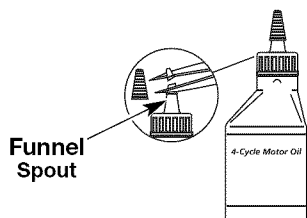

Fig. 7
Your unit is supplied with one 2.03 fluid oz. (60 ml) bottle of SAE 30 SF, SG, SH oil (Fig. 7).
1. Unscrew the top of the bottle of oil and remove the paper seal covering the opening. Replace the top. Next, cut the tip off the funnel spout (Fig. 7).